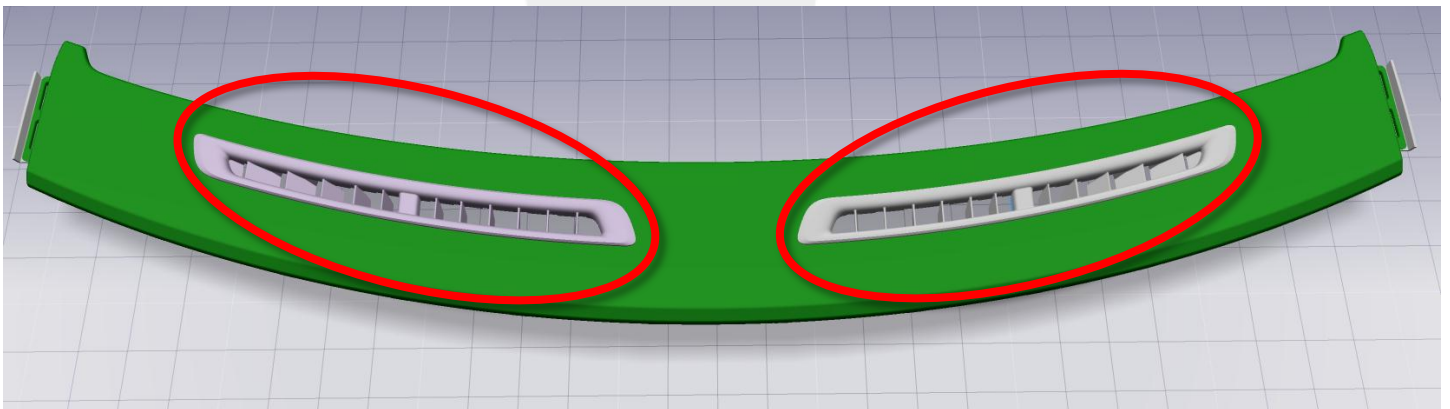

Figure 2
1. Inspect the defrost mesh grille that is inside the vehicle. If the grille has vents that direct air toward the A-Pillars (Figure 2), then the new grille is already installed and no more work is needed.